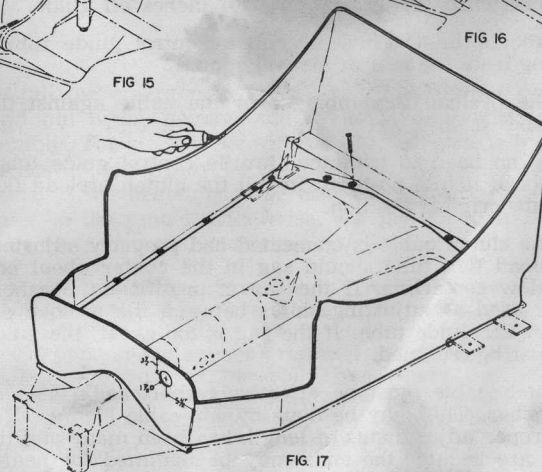

FIG 17
Drill (4) $\frac{5}{16}$ " holes across rear lip of liner. Bolt liner to frame with $\frac{5}{16}$ " x 3" bolts. (fig. 17).
Cut (1) $\frac{7}{8}$ " hole in liner for steering column. Hole should be drilled approximately $3\frac{1}{2}$ " down, from top of liner, and $5\frac{1}{2}$ " in from left side of liner. Use a hole saw or fly-cutter to drill hole. (fig. 17).